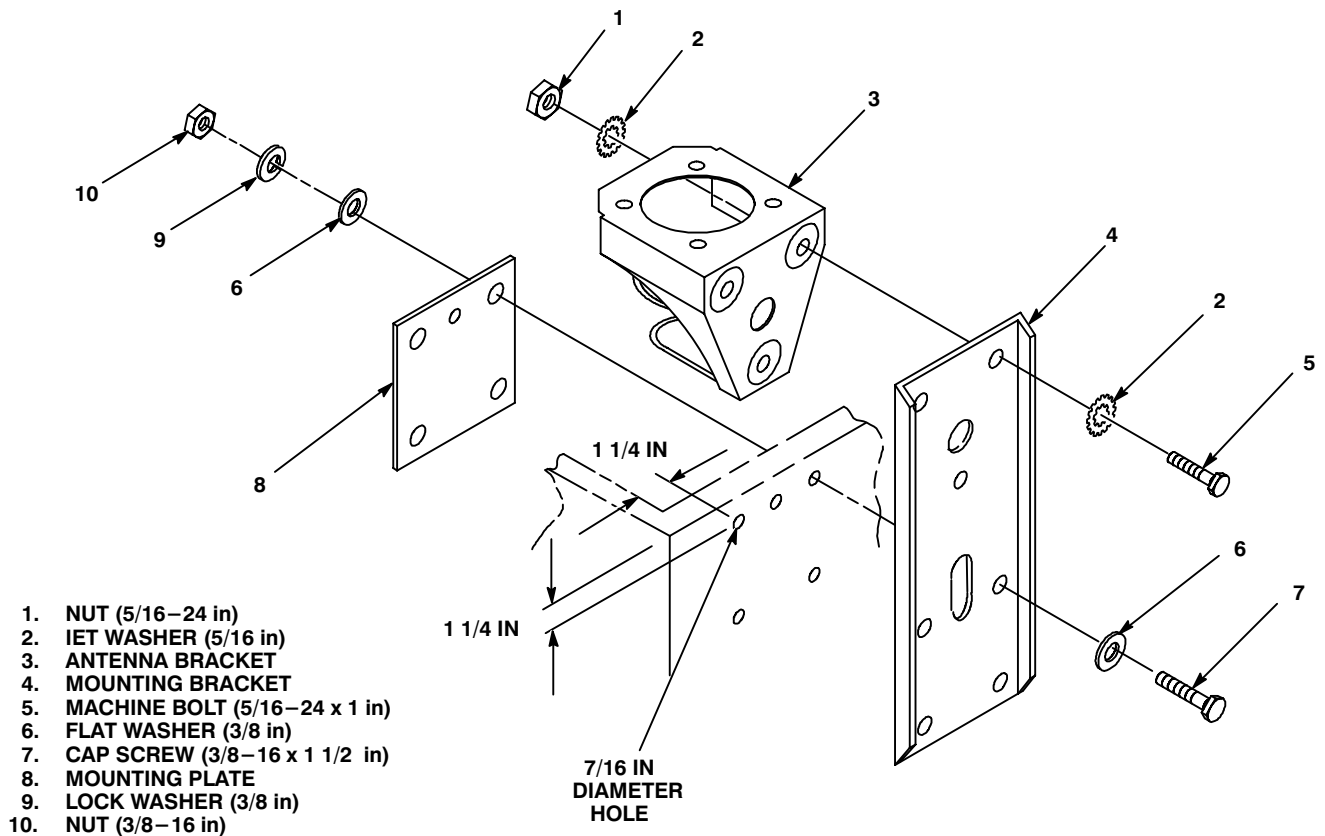

Figure 5-2 (1). Antenna Base Installation: Installing Antenna Bracket
| b. Holes for mounting bracket (4) and mounting plate (8). | Using mounting plate and dimensions shown, drill five 7/16 in diameter holes through curbside wall. See figure 5-2 (1). | Tools: Electric drill and 7/16 in bit. |
e. Antenna bracket (3).	Place against mounting bracket (4) and aline mounting holes. See figure 5-2 (1).
f. Three machine bolts (5) six IET washers (2) and three nuts (1).	Install and secure to mounting holes in antenna bracket (3) and mounting bracket (4).	Tools: 1/2 in socket and 1/2 in open/box wrench.